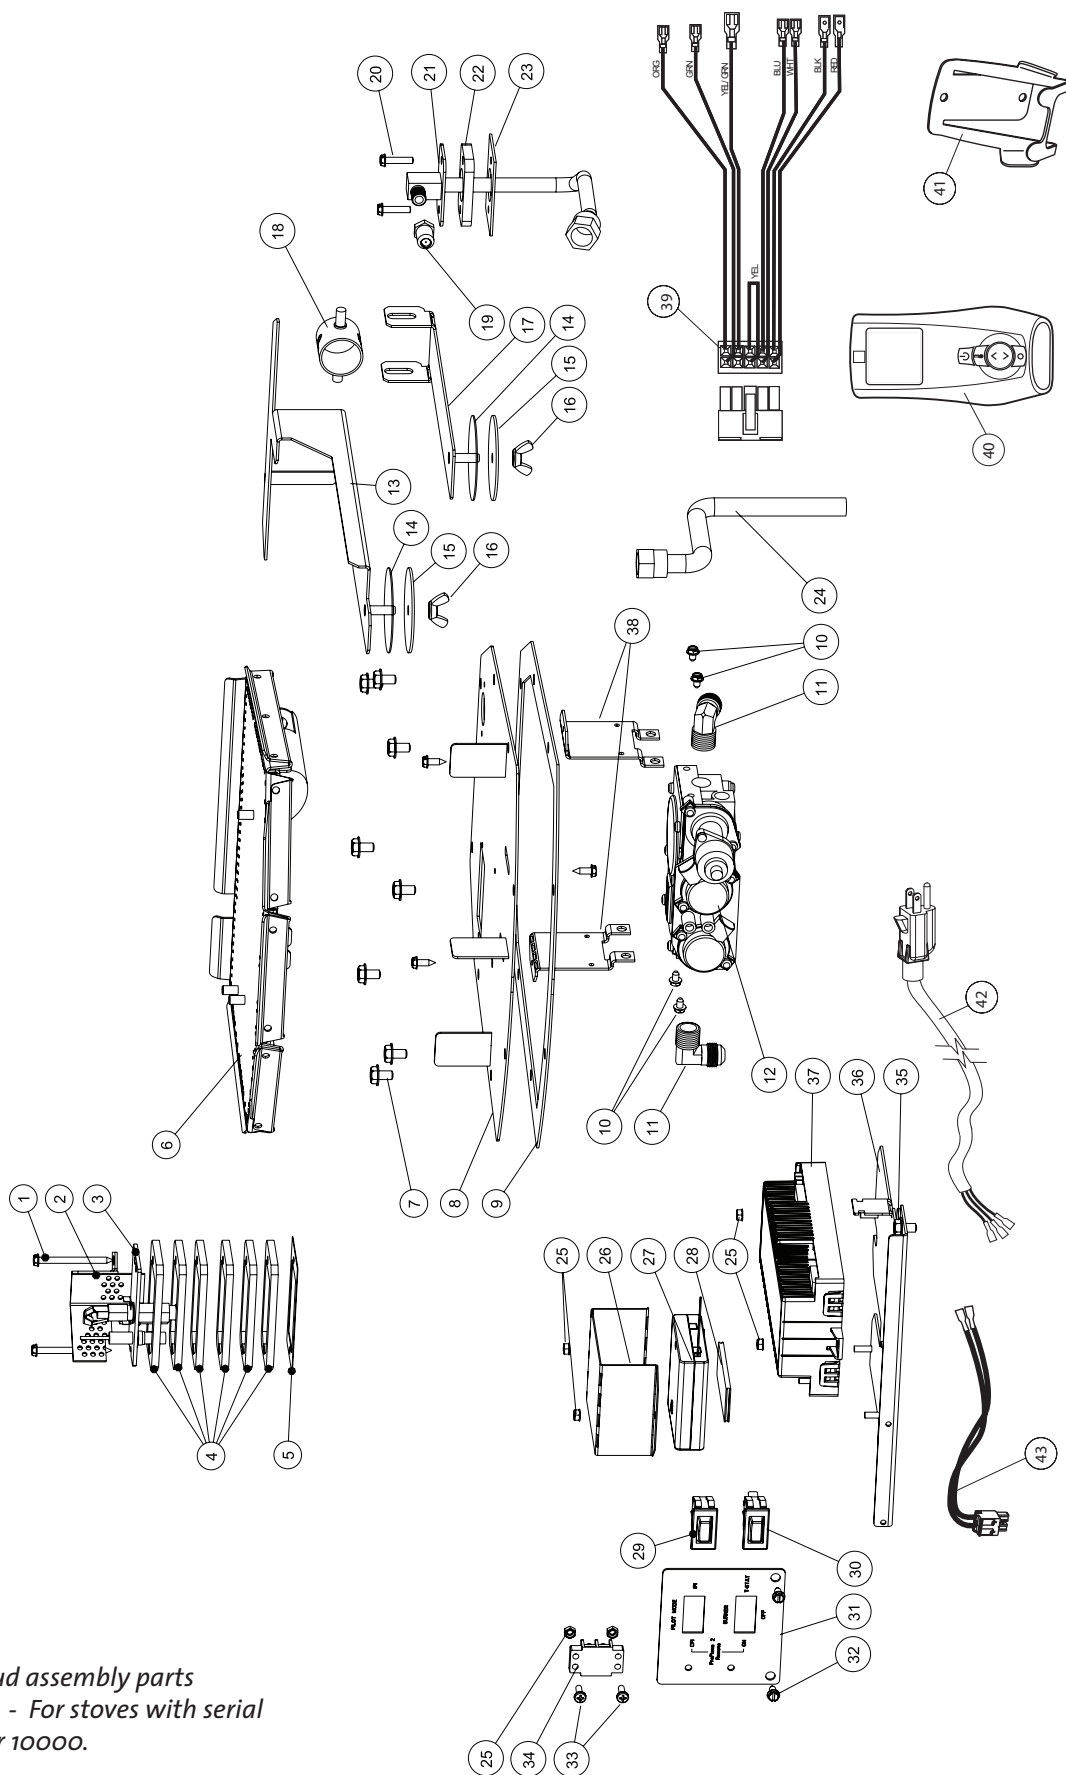

Figure 64.
2. Access the battery box from the left side of the control compartment. It is directly behind the control switch plate. See fig. 64, #27. Disengage the box from the hook & loop tape and pull it out of the compartment.